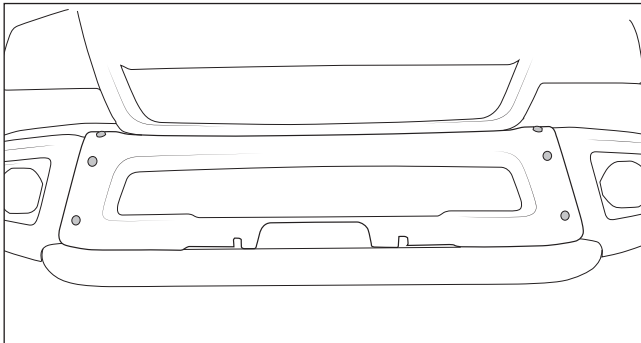

Figure 4
4. Remove the 6 M10 torx bolts attaching the center section of bumper (fig. 4).